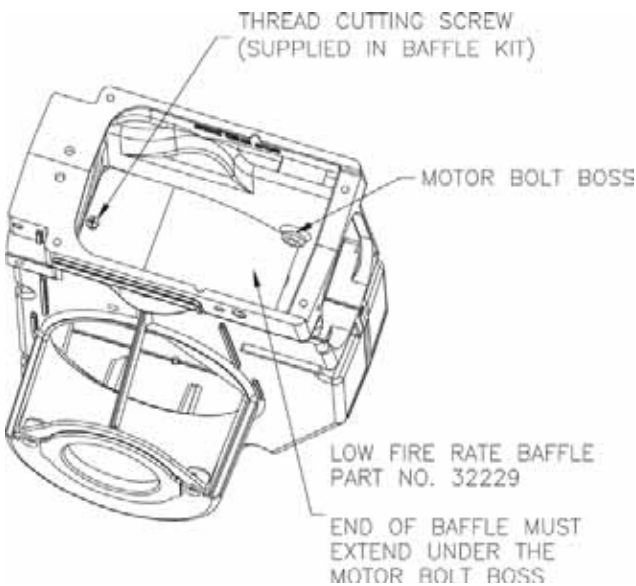

Figure 42: Mounting Low Fire Rate Baffle in Burner Housing
5. Lift up the igniter baseplate and verify that a burner has factory installed Low Fire Rate Baffle, if applicable. See Table 10 and Figure 42.